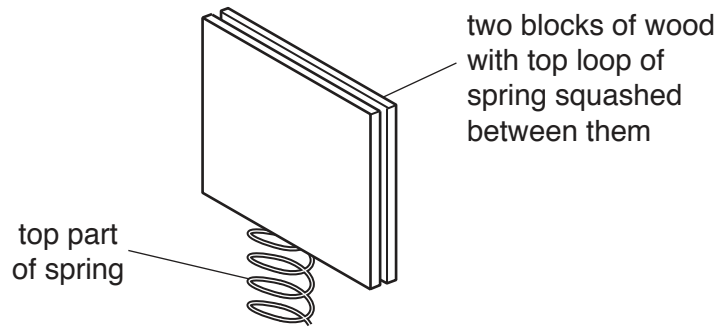

Fig. 2.3
2. The two blocks of wood are to be used to clamp the loop at the top of the spring. The arrangement is shown in Fig. 2.3.